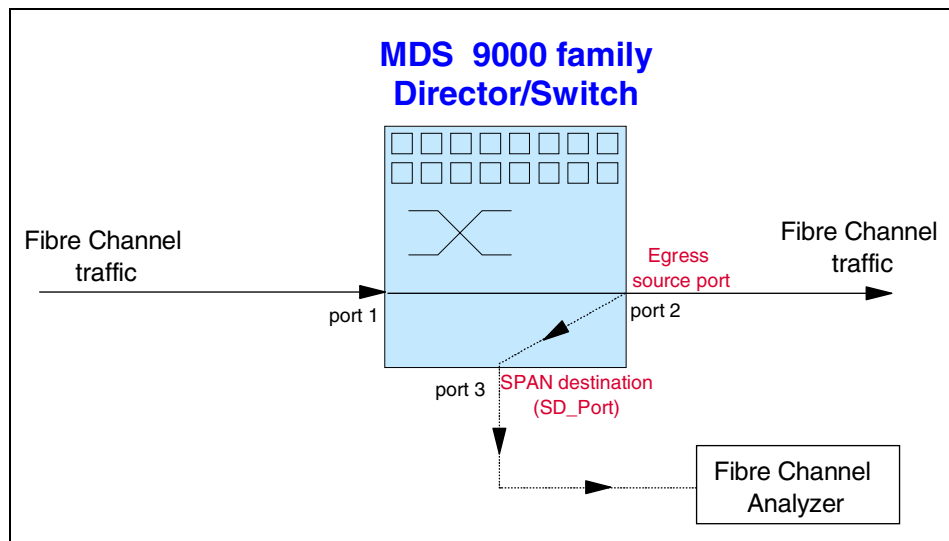

Figure 7-30 SD\_Port for outgoing traffic (egress direction)
- ▶ **Egress source (tx):** Traffic exiting the switch fabric through this source interface is spanned or copied to the SD\_Port, as shown in Figure 7-30.